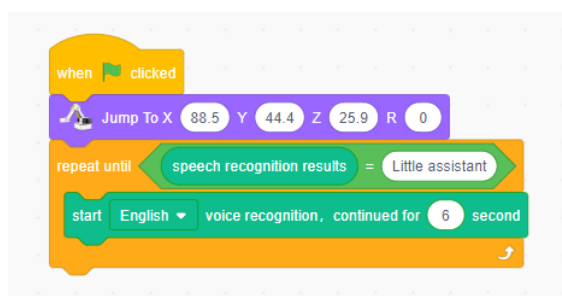

Figure 5.30 Program of waking up by voice
Step 5: Initialize the position of the robotic arm, and wake up the smart library system by voice. The program is shown in Figure 5.30.